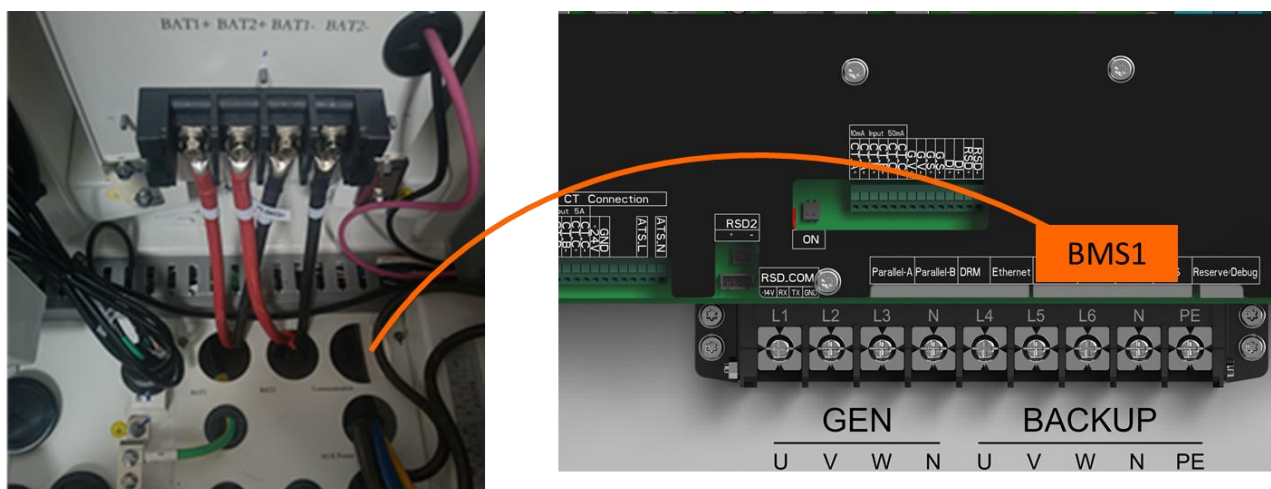

Figure 5-15 Communication cable connection diagram
1. The communication cable connected from the hybrid inverter to the battery cabinet. Connecting CAN cable (with the label L071101-02150) reserved in the integrated cabinet according to Figure 5-15. Connect the end with the RJ45 to the communication interface of the hybrid inverter. The following is the interface definition.